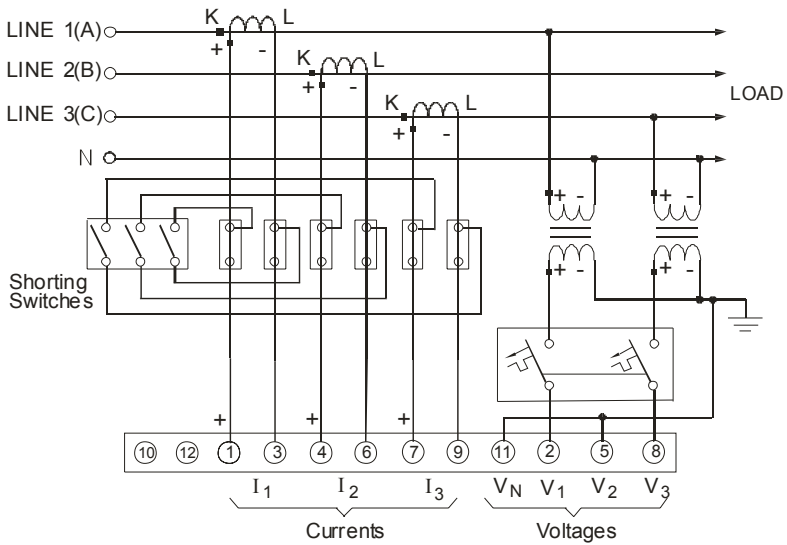

**Figure 3-2**
**Input of 690V (Standard):** To ensure accurate readings, the measured voltage between terminals 2-5, 5-8 and 8-2 should not exceed 790V AC RMS, and the measured voltage between terminals 2-11, 5-11 and 8-11 should not exceed 460V AC RMS and 695V amplitude. Use any of the seven wiring configurations shown in *Figures 3-2* through *3-8*.
3-wire direct connection using 2 CTs (2-element)	3dir2 (Figure 3-2)